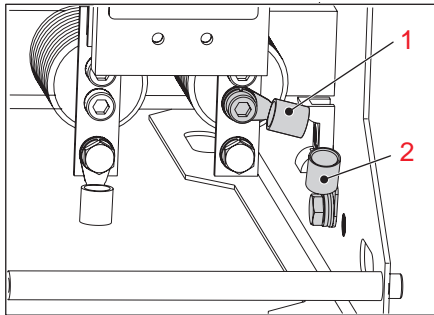

Figure 18
3. At the rear of the device use the continuity tester and check the continuity of the earthing cable between the right contact K1/13 (1) and the earthing clamp (2) at the housing, see **Figure 18**.